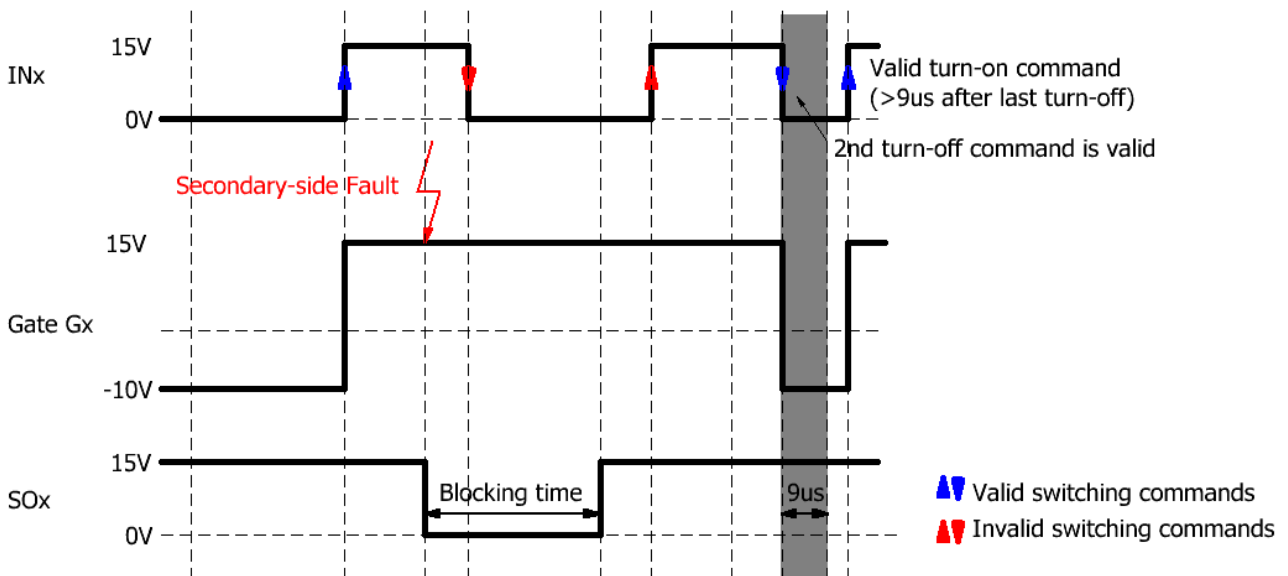

Fig. 8 Example of turn-off behavior after secondary-side fault detection (CSHDx connected to COMx)
- A first turn-off command (see first red arrow in Fig. 8) must be followed by a turn-on command (see second red arrow in Fig. 8 which must be applied after the blocking time has elapsed), before the driver’s channel can be turned off. The driver’s channel will only be turned off after the second turn-off command, as shown in Fig. 8.